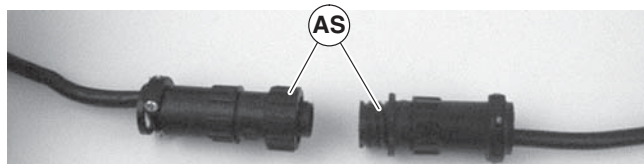

Figure 28
3. For DC variable speed motor, unplug motor cord at disconnect (Figure 28, item AS).